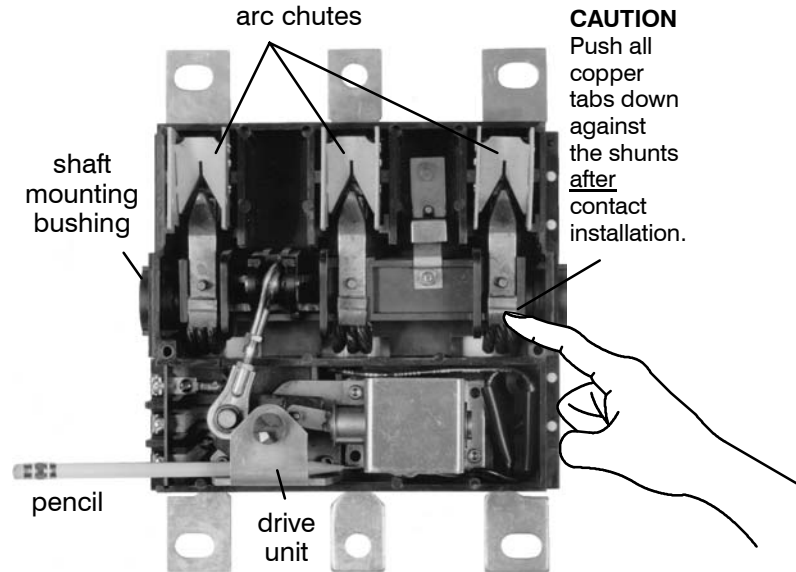

Figure 7. Pencil between weight and drive unit frame & shaft mounting bushings (green nameplate switch).
1. Remove the arc chutes as follows: pull up, tip inward, and gently rock until free. See Figure 7.
2. Insert a pencil into the operator drive assembly from the left as follows: if the contacts are open, turn the manual operator clockwise to close the contacts. Insert a pencil behind the weight, and turn the manual operator fully counterclockwise until the pencil is pinched between the frame and the rotating weight. The pencil will hold the movable contacts in half-open position to make contact removal easier. See Figure 7.
3. Insert the arc chutes into the base with the *TOP* markings up. Make sure that the chutes are properly seated by manually operating the switch and observing movable contact clearance to the chute. See Figure 7.